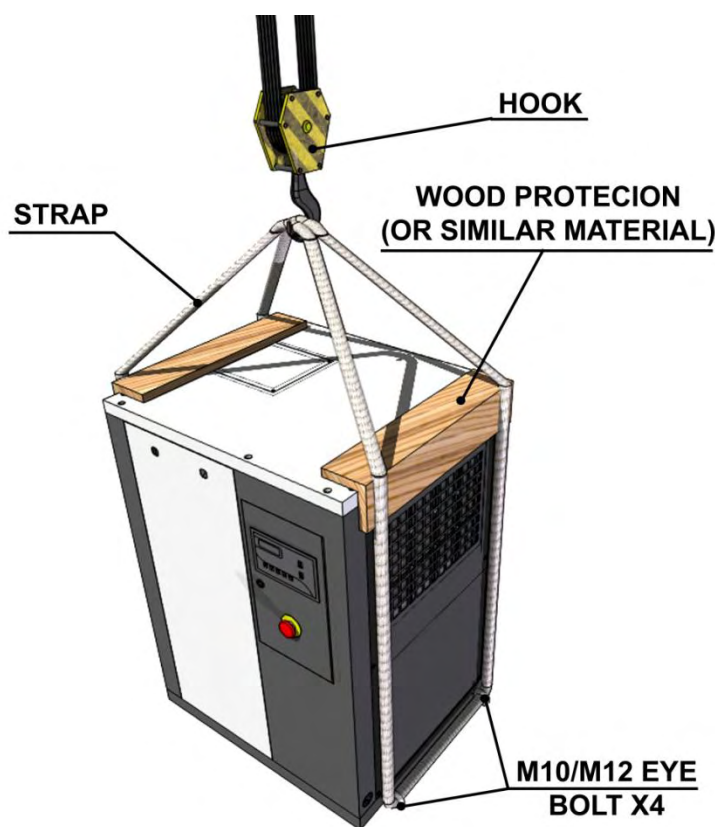

Figure 2.1
5. To avoid damage to the unit, lift using eyebolts and straps as shown in Figure 2.1